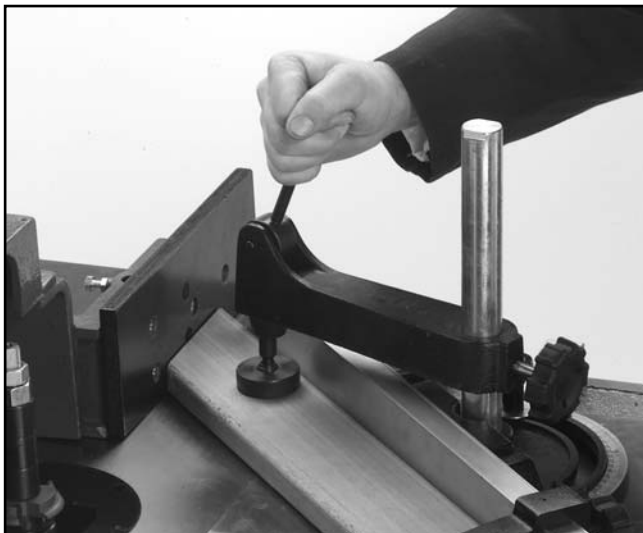

Figure 45. Locking down the miter clamp.
4. Clamp the workpiece to the table with the miter clamp as shown in **Figure 45**.